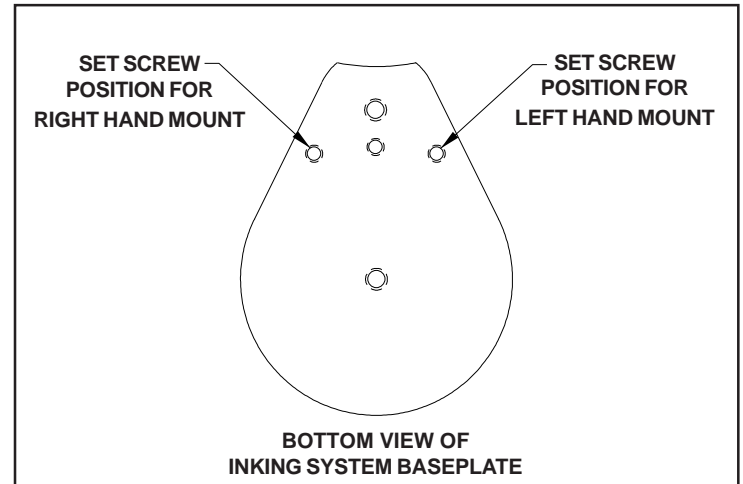

FIGURE 55
- 8 - Remove the Set Screw from the bottom side of the Inking System Assembly Baseplate (Figure 55).